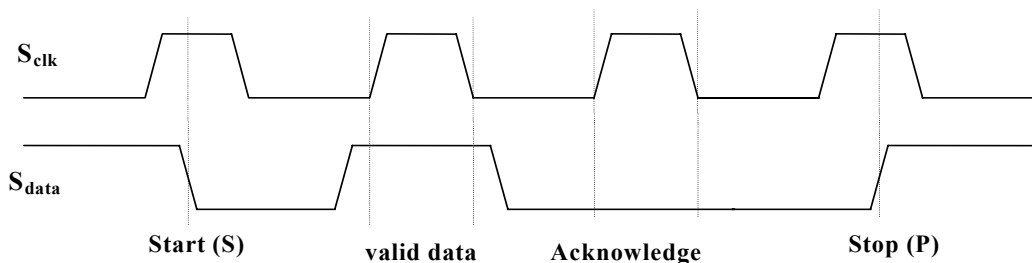

Figure 2. Serial Interface Specifications
Figure 2 shows the basic transmission specification. To begin and end a transmission, the master device generates a start signal (S) and a stop signal (P). Start (S) is defined as switching the  $S_{data}$  from HIGH to LOW while the  $S_{clk}$  is at HIGH. Similarly, stop (P) is defined as switching the  $S_{data}$  from LOW to HIGH while holding the  $S_{clk}$  HIGH. Between these two signals, data on  $S_{data}$  is synchronous with the clock on the  $S_{clk}$ .
Figure 2 shows the serial interface transfer format used with the CY2XP306. Two dummy bytes must be transferred before the first data byte. The CY2XP306 has only three bytes of latches to store information, and the third byte of data is reserved. Extra data will be ignored.